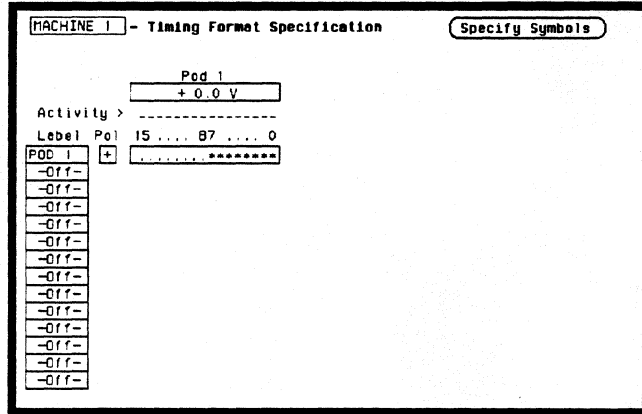

Figure 3-37. Threshold Accuracy Format Specification
3. Configure the **Timing Format Specification** for a **User Defined** pod threshold of **0.0 V** for the pod under test and assign the lower eight bits in the bit assignment field as in figure 3-37. Refer to steps a through c if you are unfamiliar with menus.